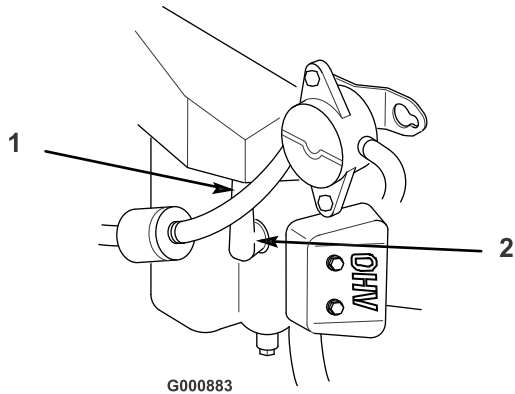

Figure 39
4. Pull the wires off of the spark plugs (Figure 39).
3. Push the wire(s) onto the spark plug(s) (Figure 39).